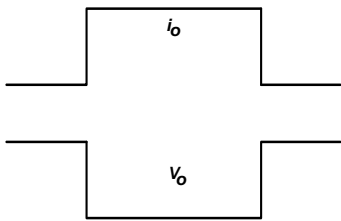
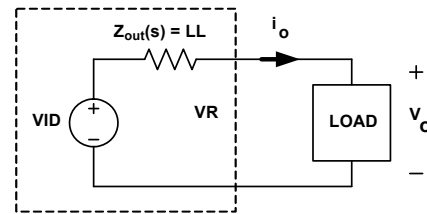

FIGURE 25. DESIRED LOAD TRANSIENT RESPONSE WAVEFORMS
FIGURE 31. VOLTAGE REGULATOR EQUIVALENT CIRCUIT
Assuming the compensator design is correct, Figure 25 shows the expected load transient response waveforms if  $C_n$  is correctly selected. When the load current  $I_{core}$  has a square change, the output voltage  $V_{core}$  also has a square response.
Figure 25 shows the desired load transient response waveforms. Figure 31 shows the equivalent circuit of a voltage regulator (VR) with the droop function. A VR is equivalent to a voltage source (= VID) and output impedance  $Z_{out}(s)$ . If  $Z_{out}(s)$  is equal to the load-line slope LL, i.e., a constant output impedance, then in the entire frequency range,  $V_o$  will have a square response when  $i_o$  has a square change.